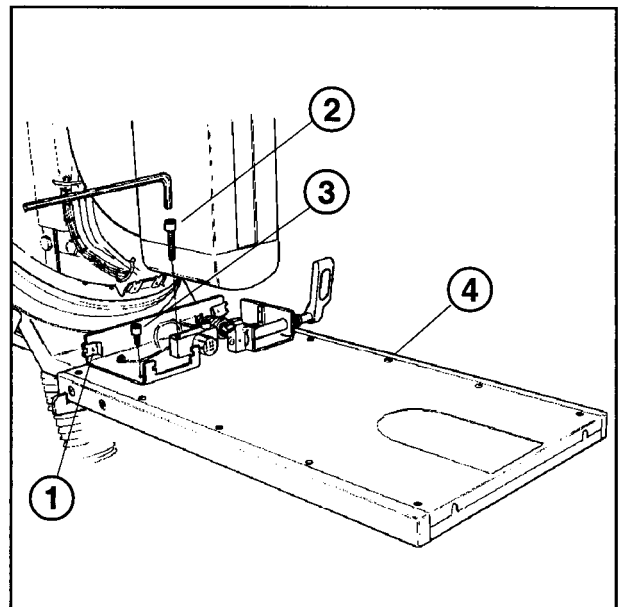

Fig. 6
- Loosen the two screws (1/Fig. 6) to remove the cover over the table-locking device.
- Loosen the four screws (2 and 3/Fig.6) to remove the table-locking device from the base plate.
- Loosen the ten screws (4/Fig. 6) and remove the base-plate cover. The HSE double detector is now accessible.